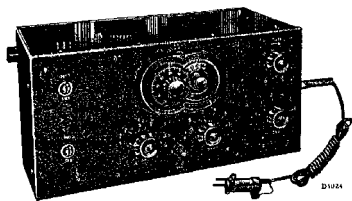

Fig. 1
1. Een service-oscillator, 4028C of G.M. 2880 (fig. 1).